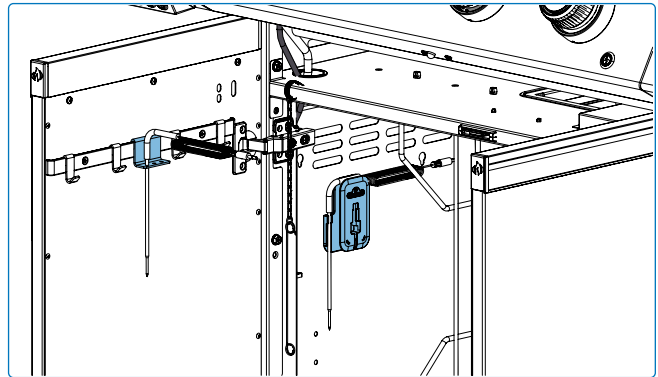

Fig. 10
- Store the rotisserie components on the designated clips inside the cart cabinet and the spit rod on the back of the grill when not in use. This keeps them secure, protected from weather exposure, and easy to access for your next cook. Always ensure the parts are clean and dry before storing to prevent corrosion (**Fig. 10&11**).